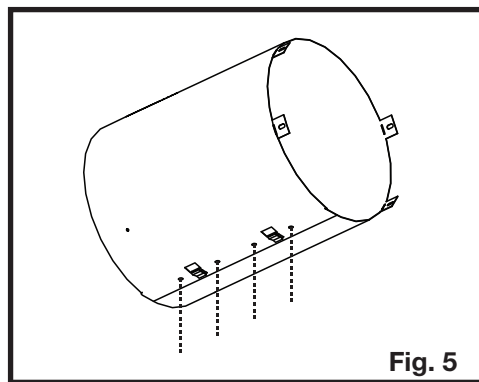

Fig. 5
5. Ensure both ends line up and secure ends with clip and fasteners (**Figure 5**).
5. Use the fasteners in step 4 to secure the vent shield to the appliance **(Figure 5).**